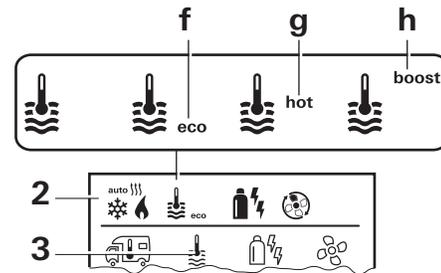

Fig. 5
- Use the rotary push button to select the icon in the menu line (Fig. 5 – 3).